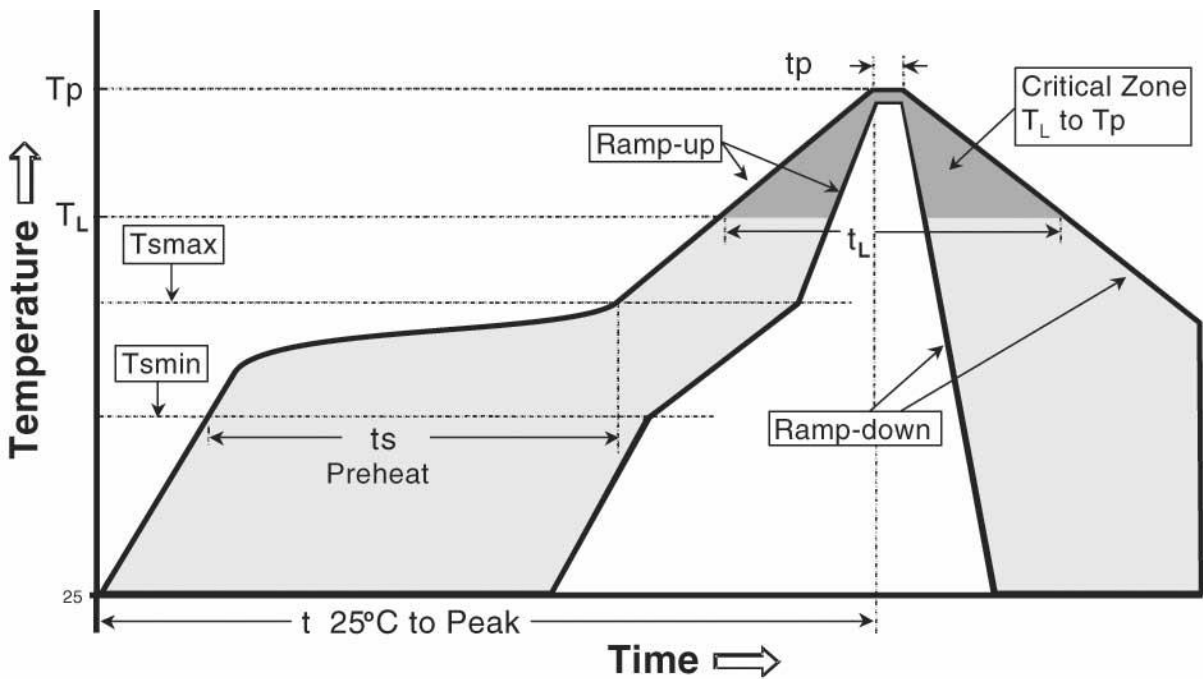

Figure 7 – Temperature profile.
2. Perform a reflow process according to the temperature profile detailed in Table 3, Figure 7 on page 11.